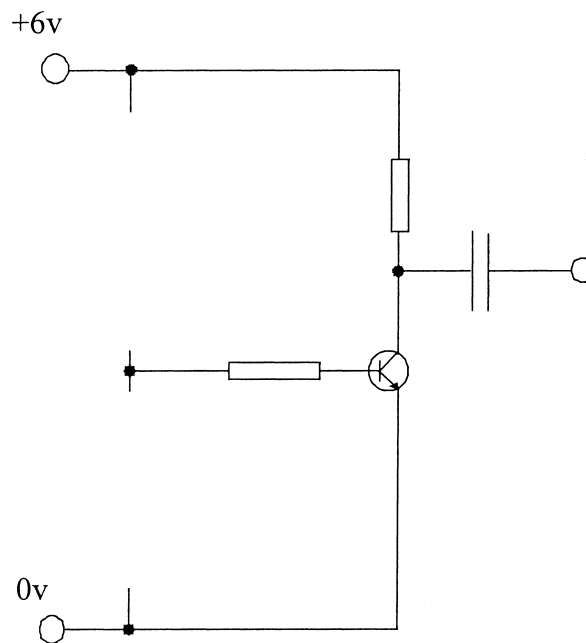

Figure 3
- (c) Add a light dependant resistor and a variable resistor to the circuit shown in **Figure 3** that will enable the circuit to be activated when the light level drops. The variable resistor controls the sensitivity of the circuit.